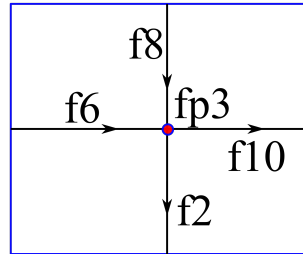

Figure 6.5 An example illustration of face point's face and orientation values (with fp3 as an example)
- **FacePoints Face and Orientation Values**: stores all faces who use this face point. The sign “+” or “-” signifies the direction of the face to (“+”) or away from (“-”) the face point. For example, Figure 6.5 shows the values for fp3.